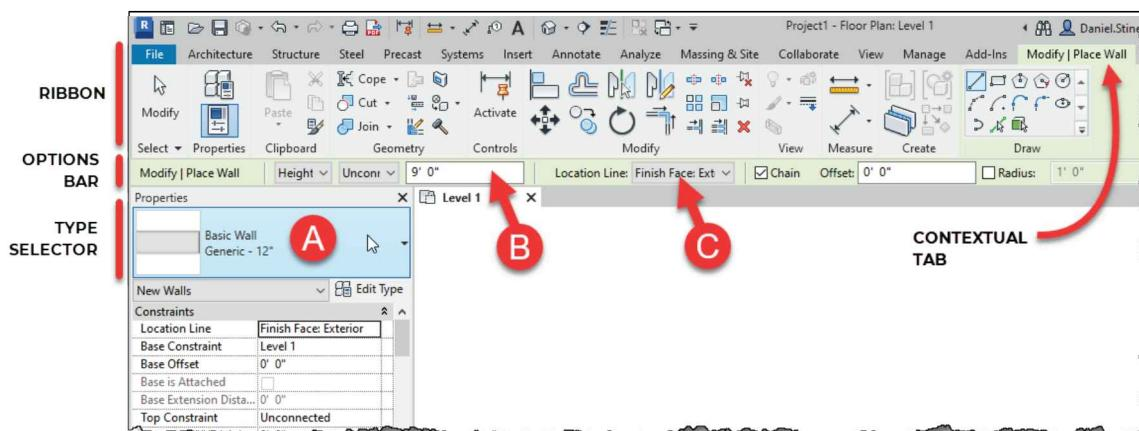

FIGURE 2-1.3 Ribbon, Options Bar and Type Selector
3. Modify the *Ribbon* and *Options Bar* to the following (Figure 2-1.3):